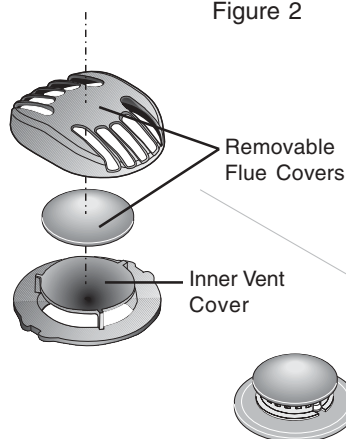

Figure 3
4. Place the 2 (two) flue covers over the inner vent cover as shown in figure 3.